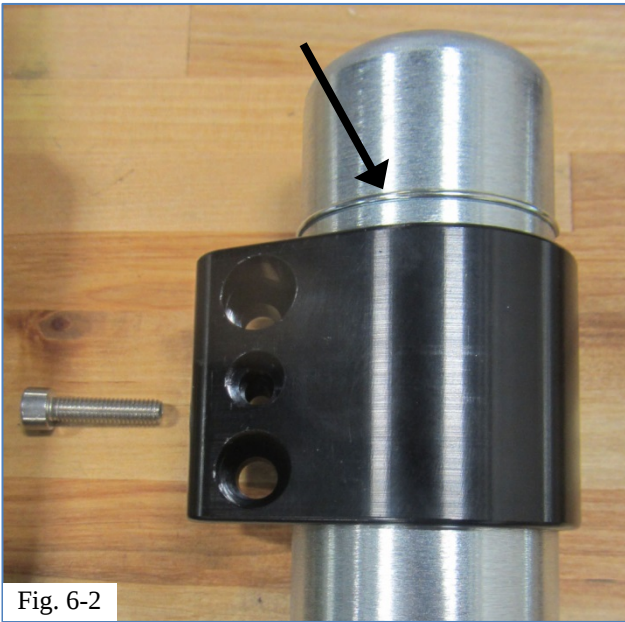

Fig. 6-2
- (b) Slide the reservoir bracket down over the reservoir tube then install the snap ring into the groove (Fig. 6-2).